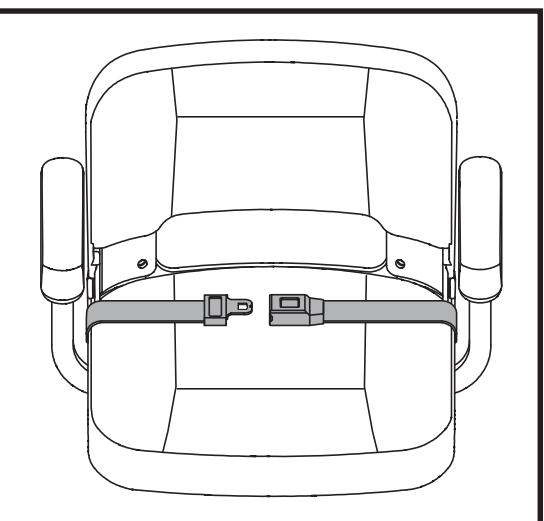

Figure 28. Positioning Belt - Metal Tab Style
Your scooter seat may be equipped with an auto-type positioning belt that can be adjusted for operator comfort. See **figure 28 or 29**. The positioning belt is designed to help support the operator so that he or she does not slide down or forward in the seat. The positioning belt is not designed for use as a restraining device.
1. Insert the metal tab on the right side of the belt into the plastic housing on the opposite strap until you hear a “click.” See **figure 28**.